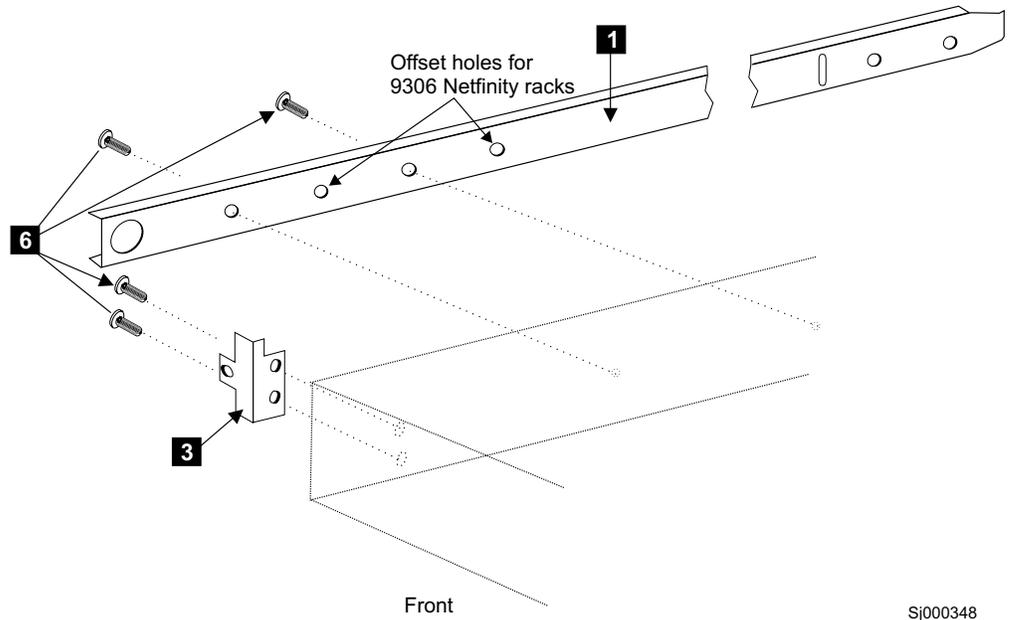

Figure 8. Mounting the moving portion of the slide and the mounting brackets to the switch
- a. Position the flat side of the inner rail along one side of the switch, aligning the holes in the rail with the threaded holes in the side of the switch chassis. The chamfered end of the inner rail should face toward the rear of the switch (away from the ports) as shown in Figure 8 on page 13.
4. Optional step: If desired, install the right rack mount bracket **2** and the left rack mount bracket **3** on the switch chassis. These brackets secure the switch to the rack as shown in Figure 8 on page 13.